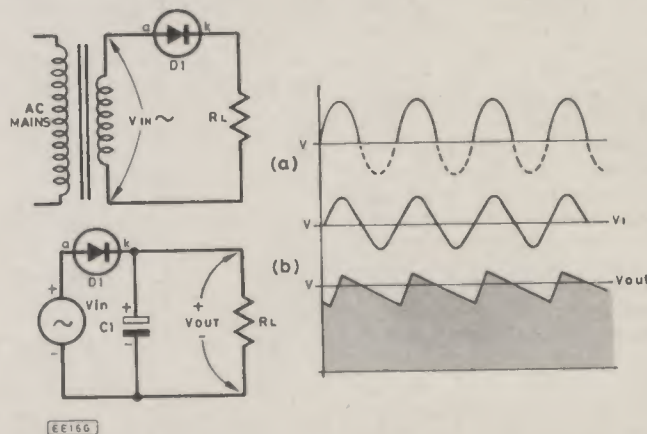

Fig. 8.5(a). Half-wave rectifier circuit, with waveforms. (b) Half-wave rectifier with reservoir capacitor.
(1) The likely d.c. output voltage, off-load?
(2) The maximum permissible output current?
- Q8.5 When a reservoir capacitor is used, the rectifier diodes conduct for only a portion of a half-cycle. During this period they must provide enough current to charge the capacitor sufficiently to keep up the d.c. output. In Fig. 8.5, if the d.c. output is 100mA and D1 conducts for 10% of its "on" half-cycle, roughly how much current does it pass when conducting?